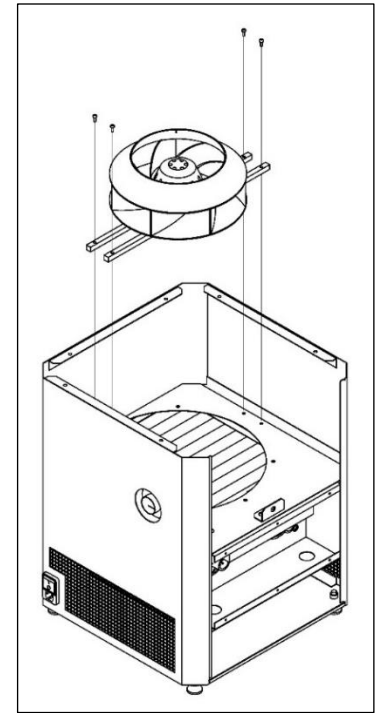

Figure 11
- 5.) Remove fan motor and motor bracket from the frame by loosening (4) screws with an Allen wrench. See Figure 11.
- 9.) Reconnect fan bracket to frame using (4) screws. Tighten with an Allen wrench. See Figure 11.